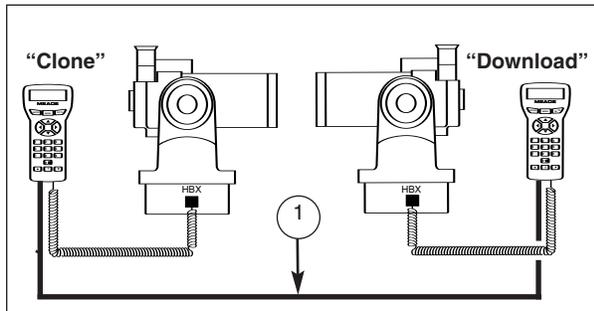

Fig. 2: #505 Connector Cable Set connects between two AutoStar handboxes. (1) 3-foot cable.
3. Connect the 3-foot cable (1, Fig. 2) between the RS-232 ports at the base of each AutoStar as shown in Fig. 2.